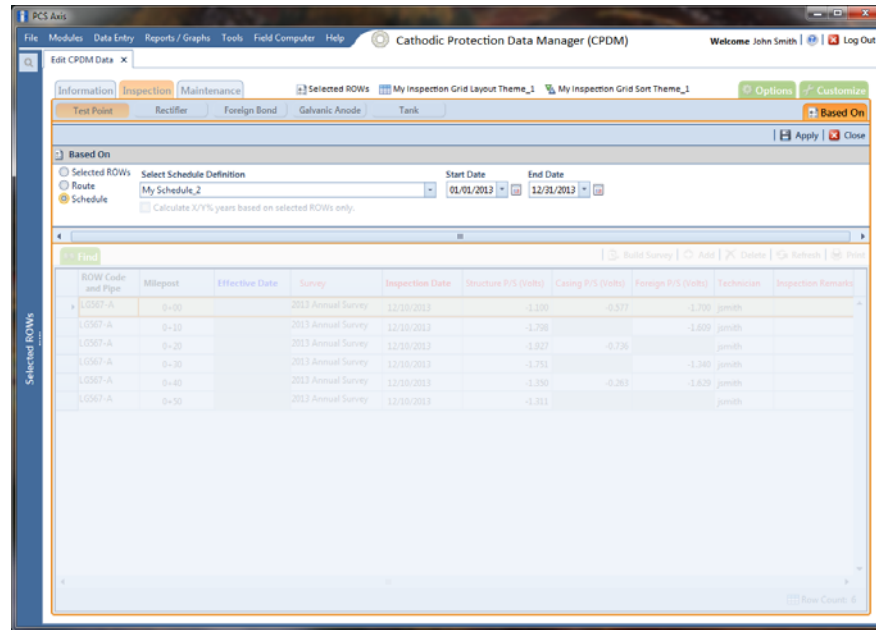

Figure 7-46. Based On Schedule
- 5 Click the **Based On** tab  to open the based on panel. Then select the **Schedule** option (Figure 7-46).